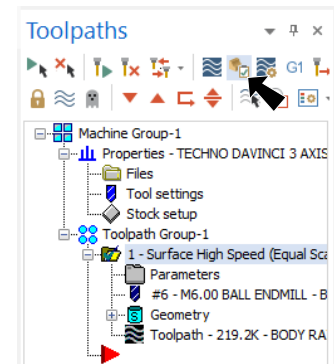

Fig. 21
Step 2. In the Toolpaths Manager **Verify** , Fig. 21.